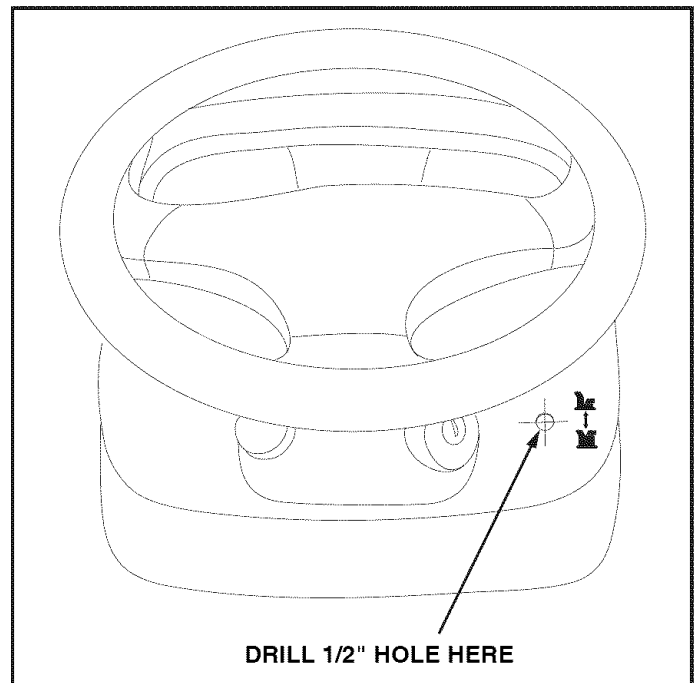

FIGURE 5
- a. Drill a 1/2" hole in the lower right hand corner of the tractor's dash as shown in figure 5. A hole larger than 1/2" may cause the nuts on the switch to not hold properly.